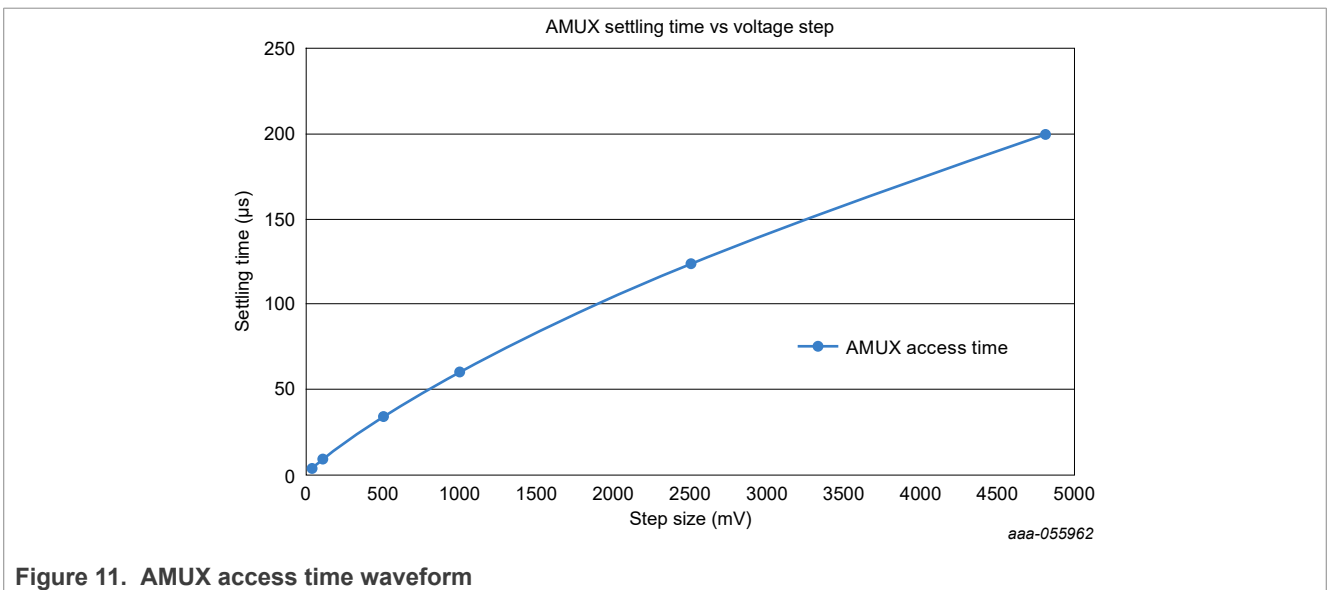

Figure 11. AMUX access time waveform
- AMUX settling time to be within the 10 mV offset specification. $AMUX_{VALID}$ is dependent of the voltage step applied on the input SGx/SPx pin or the difference between the first and second channel selected as the multiplexed analog output. See Figure 11 for a typical AMUX access time VS voltage step waveform.